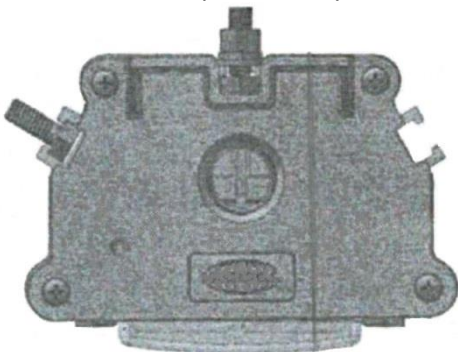

FIGURE 1
- A. Channels are incorporated in the housing for 5/16" or M8 hex bolts or nuts. (See Figure 1)